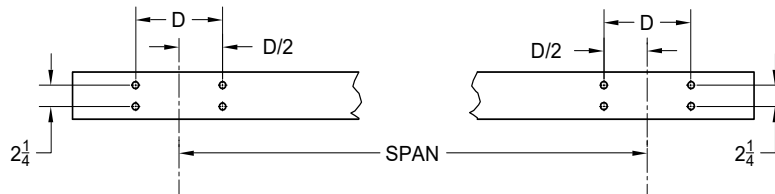

Figure 3-1 Bridge Beam Flange Holes – **UNDERHUNG & TOP RUNNING**
- Underhung – Drill eight 9/16" diameter holes through the top flange as shown in Figure 3-1. Drill four 9/16" diameter holes through the web as shown in Figure 3-2.
- Top Running – Drill eight 9/16" diameter holes through the bottom flange as shown in Figure 3-1. Drill four 9/16" diameter holes through the web as shown in Figure 3-3.